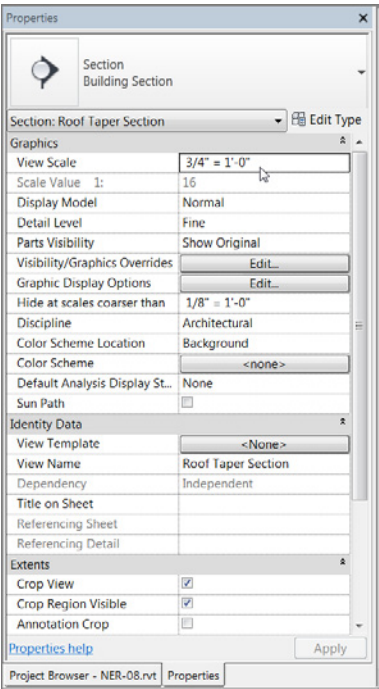

FIGURE 7.18: Changing the properties of the section
5. Change the View Name option (under Identity Data) to Roof Taper Section (see Figure 7.18).